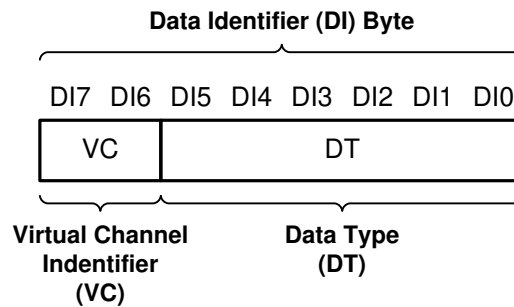

Figure 7-10. CSI-2 Data Identifier Structure
The DS90UB962-Q1 MIPI CSI-2 protocol interface transmits the data identifier byte containing the values for the virtual channel ID (VC) and data type (DT) for the application specific payload data, as shown in Figure 7-10. The virtual channel ID is contained in the 2 MSBs of the data identifier byte and identify the data as directed to one of four virtual channels. The value of the data type is contained in the 6 LSBs of the data identifier byte. When partnered with a DS90UB935-Q1 serializer, the Data Type is passed through from the received CSI-2 packets.